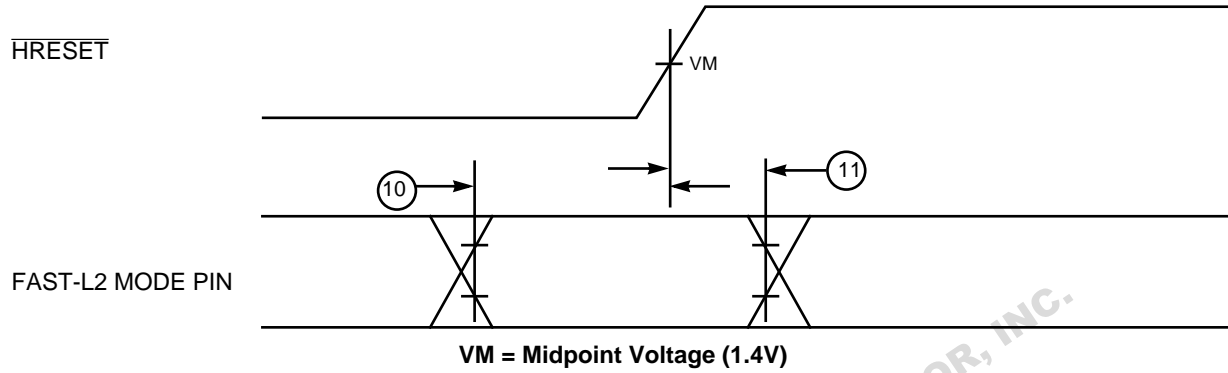

Figure 3. Fast-L2 Mode Select Input Timing Diagram
2. The setup and hold time is with respect to the rising edge of HRESET (see Figure 3).
Figure 3 provides the timing diagram for the fast-L2 mode select input.